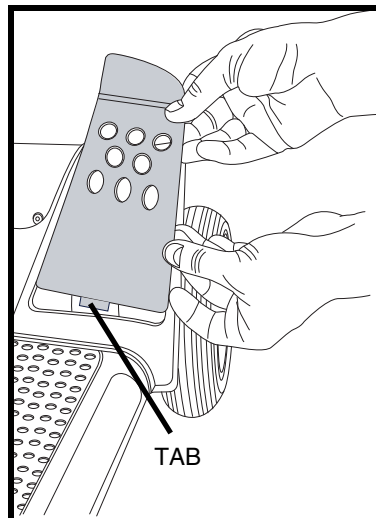

Figure 10. Front Fender Panel
2. Push through the hole to separate the piece from the Travel Scooter. See figures 10, 11, and 12.
NOTE: When installing the front and rear fender panels, make sure the tab at the bottom of each panel is inserted into the tab opening before securing the panel. See figure 10.